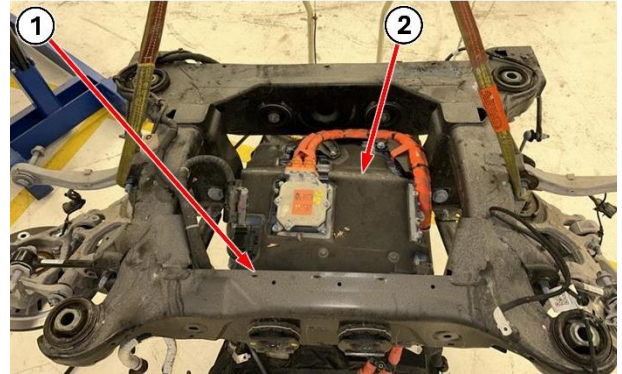

Figure 34 – Cradle and EDM
72. Lift the cradle to separate it from the EDM (Figure 34).